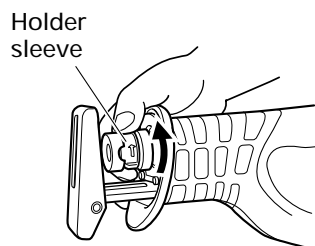
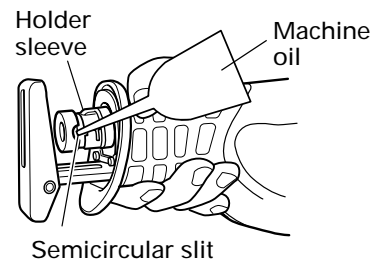

Fig. 6
Fig. 12
- (2) Turn the holder sleeve in the direction of the arrow mark shown in Fig. 6 marked on the holder sleeve. If you turn the holder sleeve halfway you will be able to secure it automatically. (Fig. 6)
- (2) After you have turned the holder sleeve in the direction of the arrow mark shown in Fig. 6 and secured it, turn the blade so it faces downward. The blade should fall out by itself. If the blade doesn't fall out, pull it out by hand.
- (1) After use, blow away sawdust, earth, sand, moisture, etc., with air or brush them away with a brush, etc., to ensure that the blade mount can function smoothly.
- (2) Periodically lubricate the saw blade mount with machine oil through the semicircular slit at a state where the holder sleeve is turned in the direction of the arrow mark shown in Fig. 6. (Fig. 12)